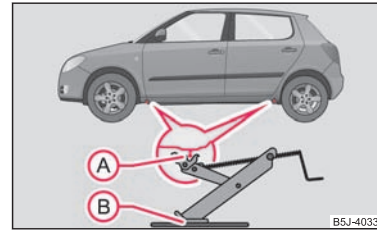

Fig. 155 Changing a wheel: Jacking points for positioning lifting jack
- Position the lifting jack by selecting the jacking point - engraving in the lower sill - which is closest to the wheel to be removed ⇒ fig. 155.
- Align the lifting jack so that its claw grasps the vertical web on the engraving of the lower sill (A) and the bottom base plate of the lifting jack (B) is resting flat with its complete surface against firm ground.